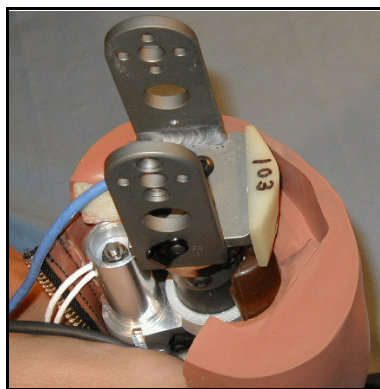

Figure 3.36 - Knee Clevis
33. Position the Molded Knee Bumper (T2LLM025) of the Knee Clevis Assembly (T2LLW020) into the molded pocket located on the upper front interior surface of the tibia skin (T2LLS010 and T2LLS011), as shown in **Figure 3.36**.